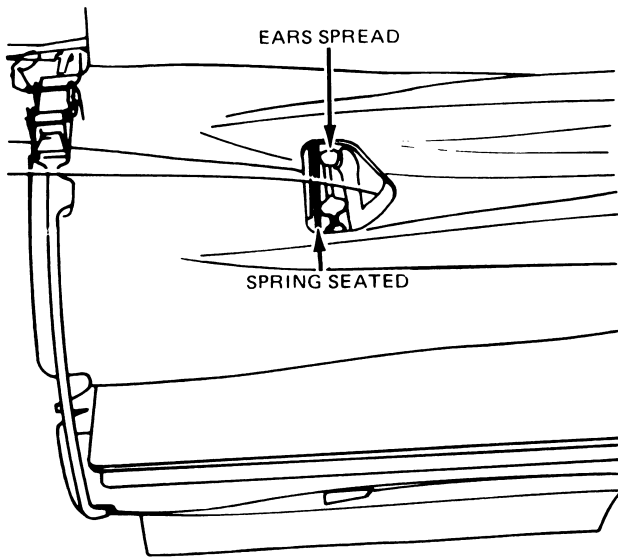

Figure 12-45.—Garter spring seated between bomb and flange.
18. Feed the spring into the space between the bomb and the fin. After this is done, pull the fin back, allowing the garter spring to contact and seat in the gap between the bomb and the fin support. (See figure 12-45.) A few shakes on the fin aids in seating the spring.